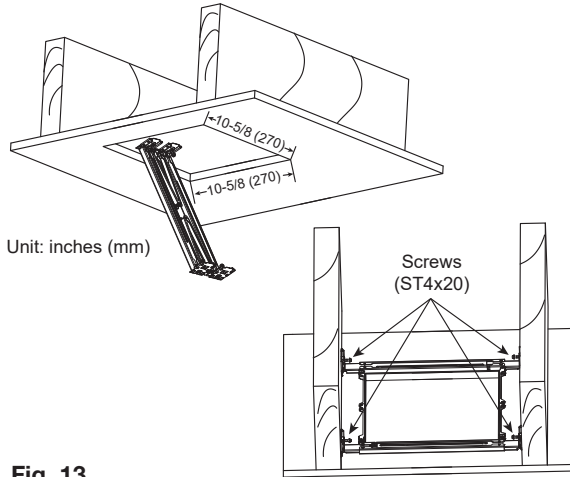

Fig. 13
1. Insert the collapsed bracket into ceiling from roomside, then follow steps 3-4 of Installation for New Construction (page 5-6) to complete the bracket installation work. See Fig. 13 and Fig. 14